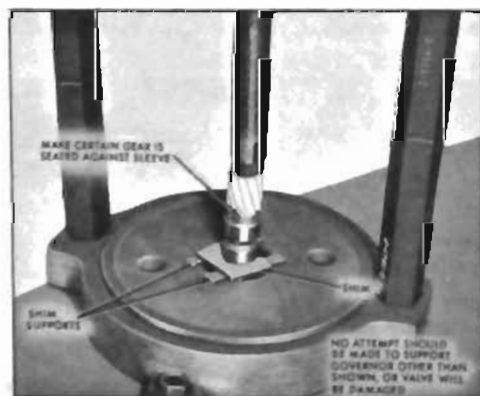

Figure 5-241
- b. Place shim supplied in replacement gear kit between the second and third lands of governor sleeve. See Figure 5-241.
- c. Make certain new gear is positioned squarely on sleeve and press gear onto sleeve. Gear must be seated against sleeve. See Figure 5-241.